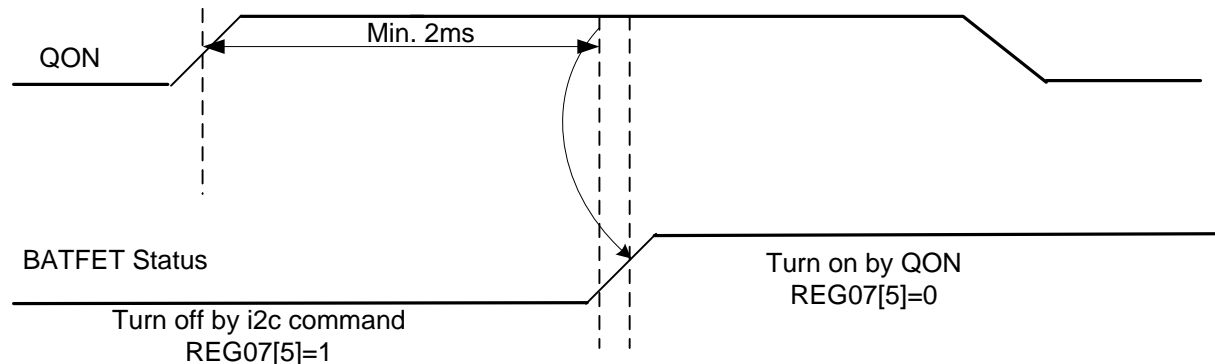

Figure 22. QON Timing
5. A logic low to high transition on QON pin (refer to Figure 22 for detail timing)